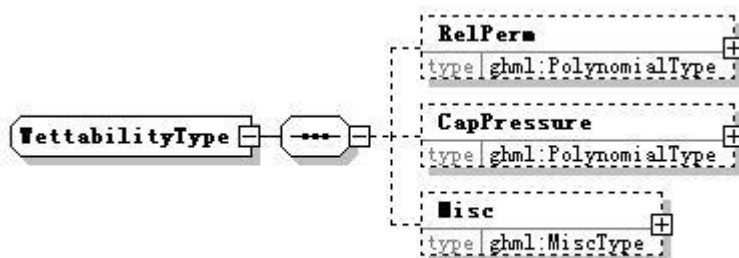

Figure 4. WettabilityType
- **Wettability [ghml:WettabilityType]** – Description of the porous media response as it is being wetted by fluids (Figure 4).